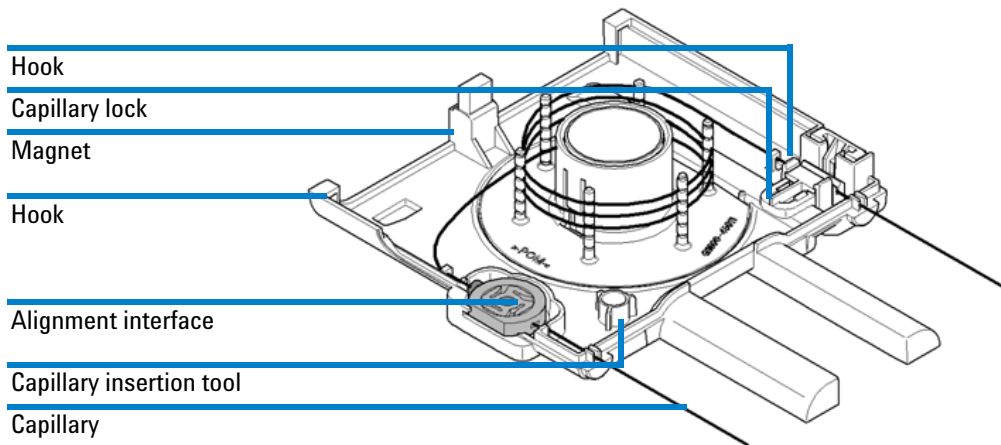

Figure 33 Installing the capillary
- 2 Insert the alignment interface into the alignment interface holder on the cassette. Make sure the flat side of the alignment interface is at the outer edge of the cassette, see Figure 33 on page 130.
- 8 Make sure the two capillary ends outside the cassette are the same length as the cassette guiding pins (see Figure 33 on page 130, alignment position) and are parallel to the pins. Use a sheet of paper or another soft item with a straight line to check this. Use the capillary lock to make adjustments on the inlet side.